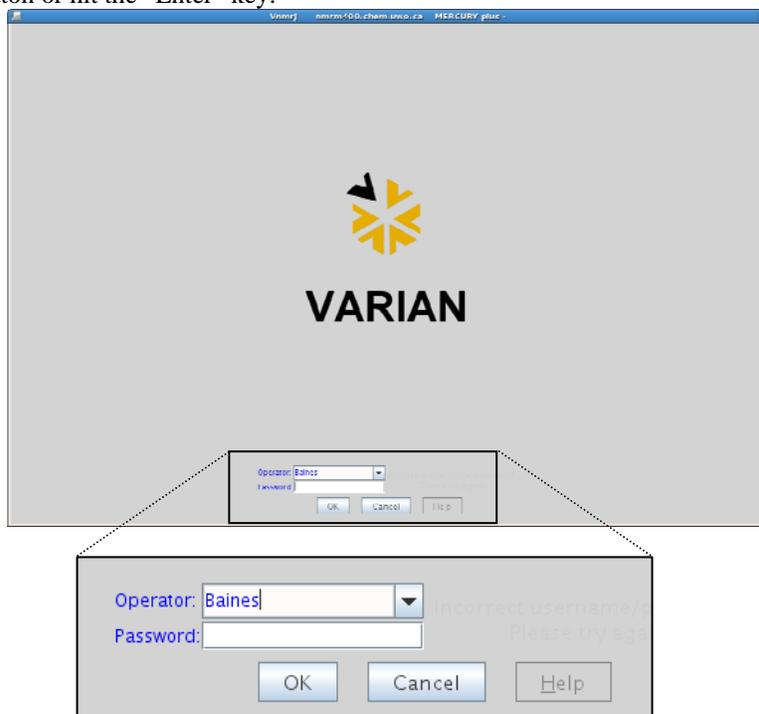

Figure 1. The Mercury 400 log-in screen. Select your supervisor's name from the drop-down list and enter the appropriate password to log-in.
- 1) Choose your group name from the drop-down list (see Figure 1).